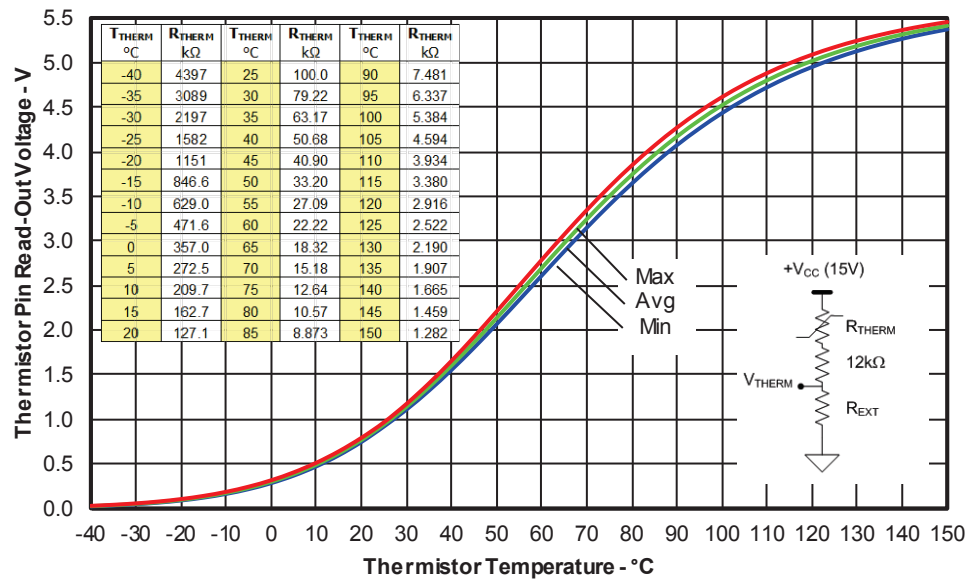

Figure 10. Thermistor Readout vs. Temperature (7.5kΩ REXT pull-down resistor) and Normal Thermistor Resistance values vs. Temperature Table.
3. Value of the boot-strap capacitors depends upon the switching frequency. Their selection should be made based on IR design tip DT04-4, application note AN-1044 or Figure 10. Bootstrap capacitor value must be selected to limit the power dissipation of the internal resistor in series with the VCC. (see maximum ratings Table on page 3).